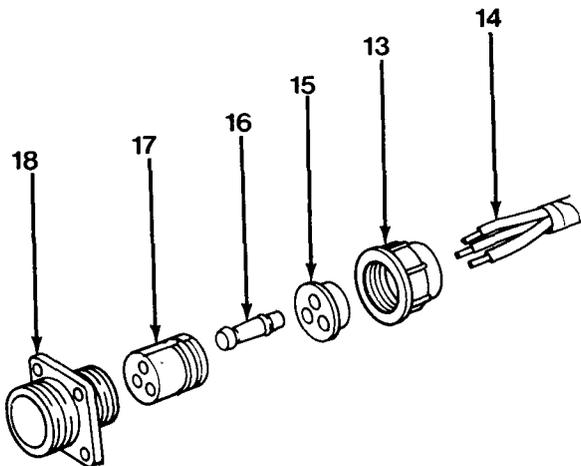

Figure 10-5
1. Strip cable insulation to depth of solder wells of socket contacts (16, Figure 10-5).
2. Slide nut (13) over cable.
3. Slide grommet (15) over cable leads (14).
4. Insert cable leads (14) into solder wells of socket contacts (16) and solder (use rosin core solder only).
5. Push insert (17) into shell (18) from rear until seated. Groove in insert (17) must be aligned with guide in shell (18) to insure proper fit.
6. Push socket contacts (16) into insert (17) from rear until seated.
7. Push grommet (15) down cable leads (14) and over solder wells of socket contacts (16).
8. Screw nut (13) onto shell assembly.